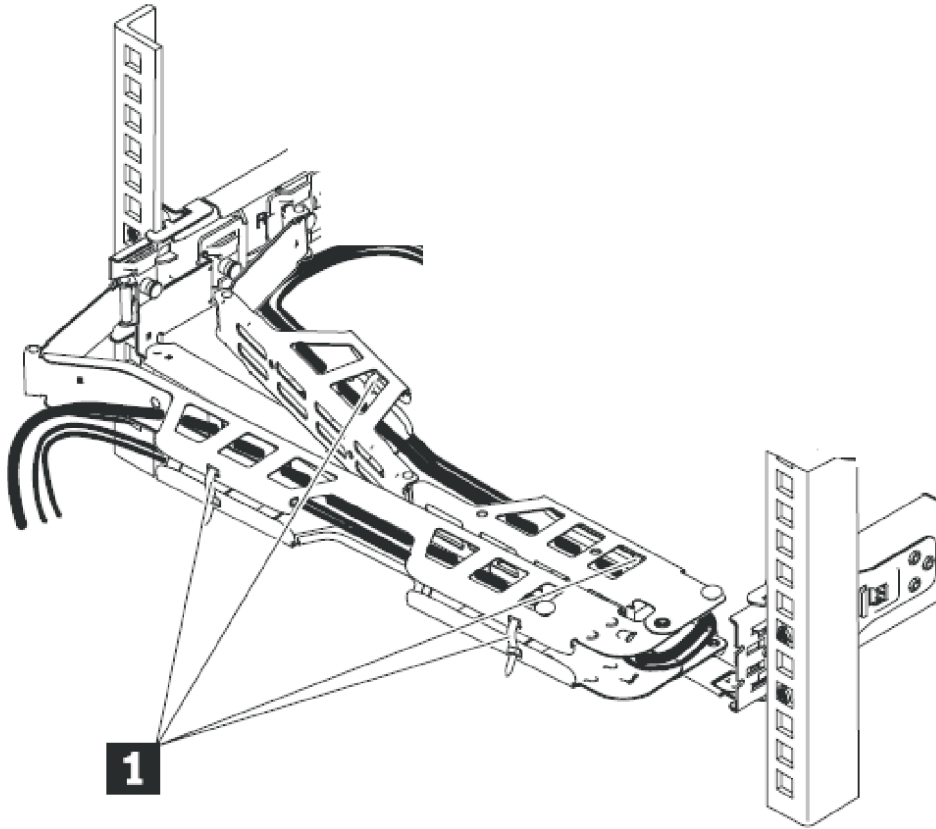

Figure 40. Connecting and routing the cables
- a. Route the data cables and power cords on the cable-management arm, as shown by **1** in Figure 40 on page 51.